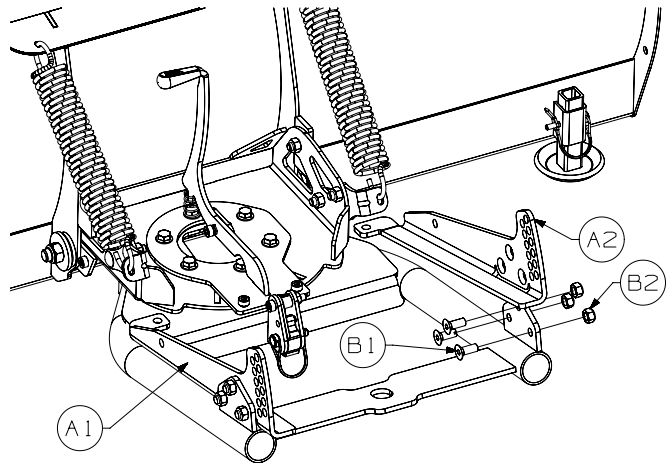

Figure 2
3. Install mounting brackets (A1, A2) using M10 flat head fasteners (B1, B2). Tighten fasteners. See Figure 2.